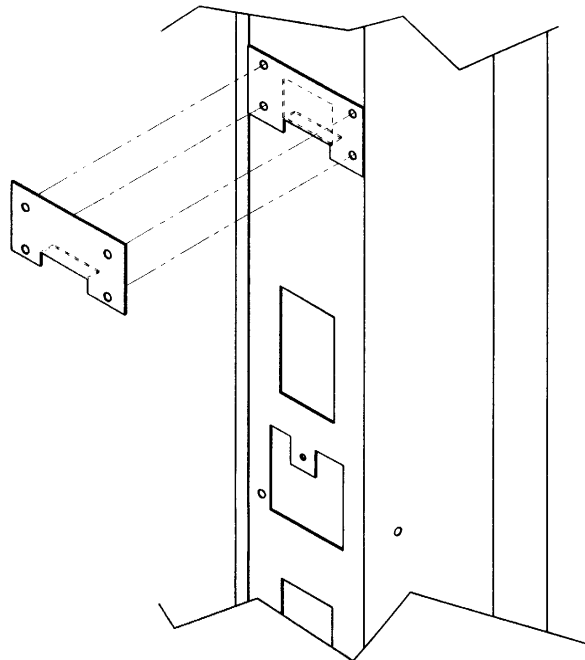
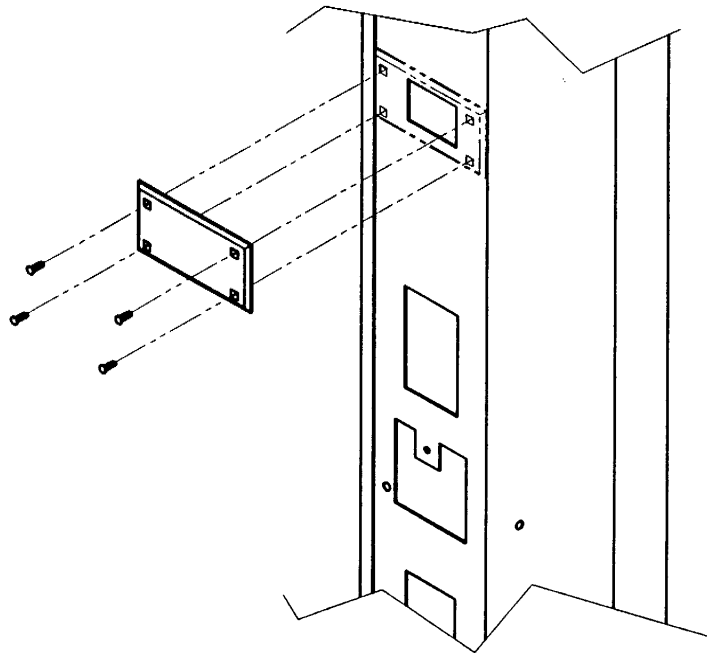
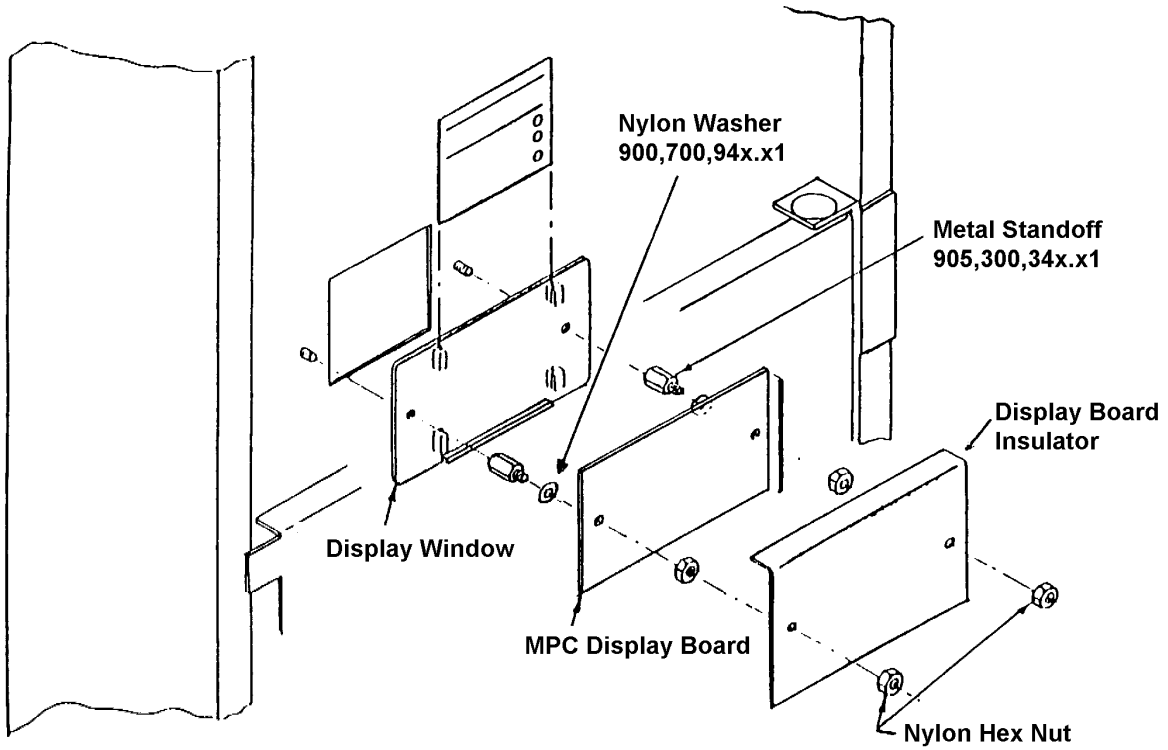

Figure 1
Figure 2
Figure 3
4. Place the MPC Display Cover Template so the flange is in the display window cut out. **IMPORTANT: The template flange should rest against the bottom edge of the display window cut out. See figure 1 below.**
5. While holding the template in position, mark the four (4) securing holes.
7. Drill a 9/32" hole at each of the four (4) positions marked in step 5. Ensure you do not drill in any wiring or parts. Also, ensure that metal filings, from drilling, do not get on the switches, coin mechanism or electrical connections.
8. Place the MPC Display Cover Protector in position. See figure 2 on page 3.
9. Secure the MPC Display Cover Protector with four (4) carriage bolts and four (4) keps nuts provided in the kit.
10. Place the display window in position. See figure 3 on page 3.
11. Secure the display window with the metal display window standoffs provided in the kit. See figure 3 on page 3.
12. Place one nylon washer (provided in kit) on each metal standoff. See figure 3 on page 3.
13. Place MPC Display Board in position and secure with nylon hex nuts. See figure 3 on page 3.